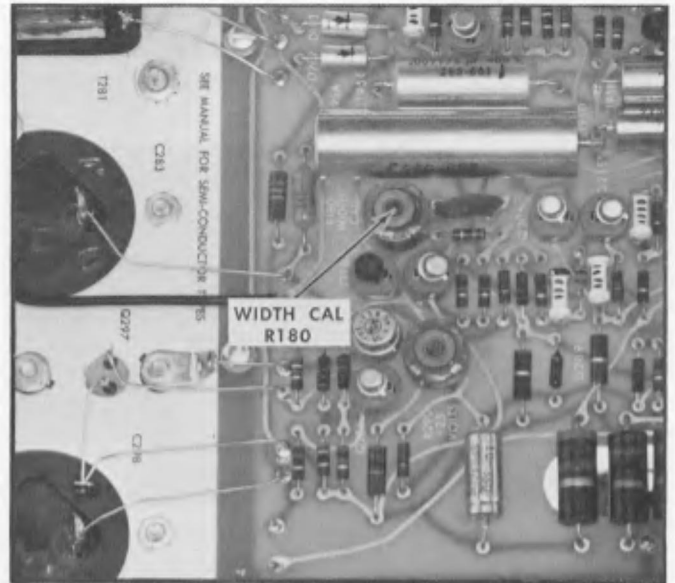

Fig. 4-13. Location of WIDTH CAL control R180.
- f. Adjust the WIDTH CAL control R180 (see Fig. 4-13) for a positive pulse width of 1 millisecond (ten 100 microsecond periods) using the time markers from the Type 180A as reference.